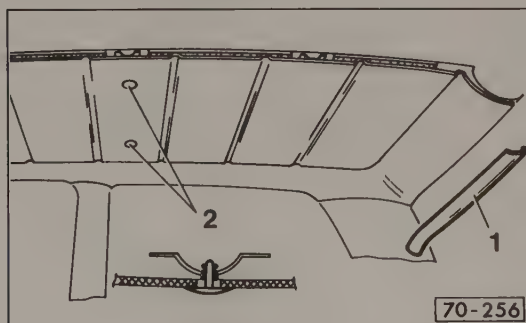

Fig. 4-50. Headliner end strip **1** and trim panel mounting clips **2**.
11. Remove the end strip from the headliner and remove the mounting clips from the liner as shown in Fig. 4-50. Lower and remove the headliner.